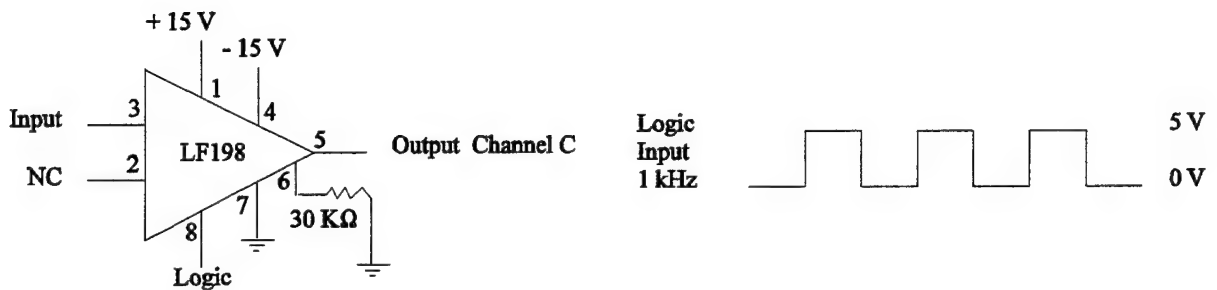

Figure 1
a) Construct the circuit of Figure 1. You will need to connect a ground bus, a + 15 volt bus and a - 15 volt bus on your bread board from the power supply. The  $\pm 15$  volt busses will provide power to your chips. When the circuit is fully connected, measure the  $\pm 15$  volts on the DMM **before** connecting them to the breadboard. Turn the power supply off. Connect your ground and power. Turn the supply back on.